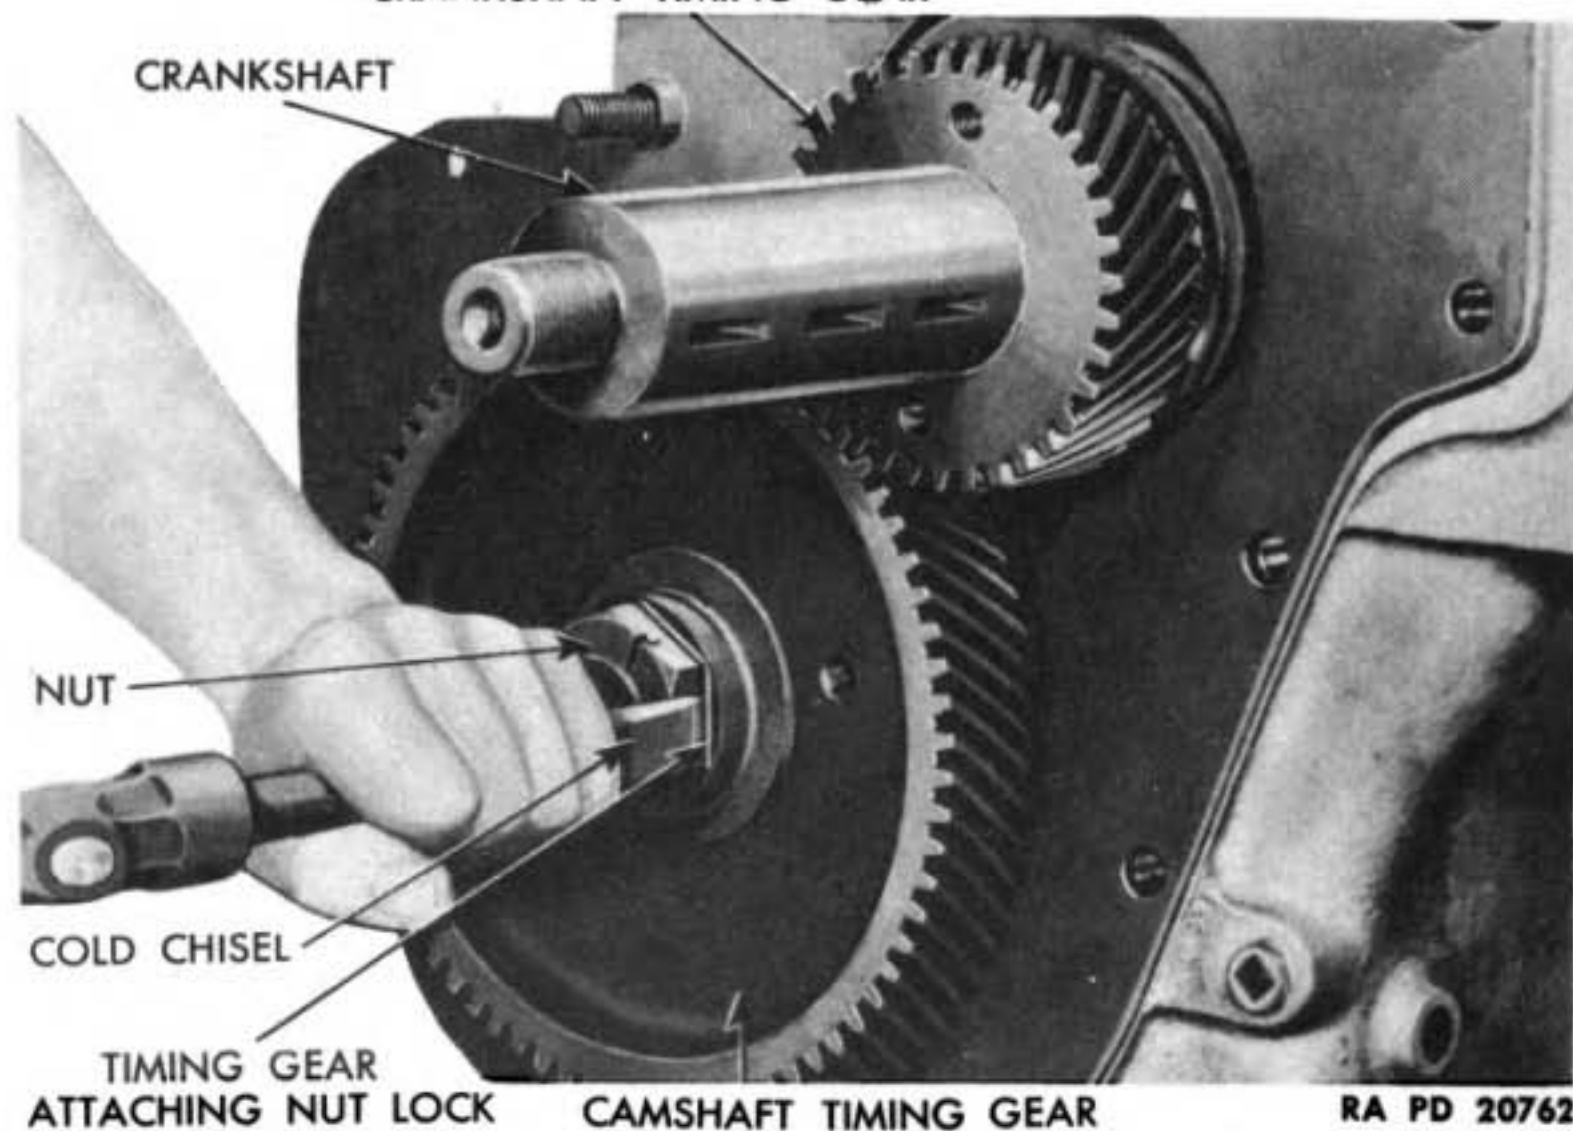
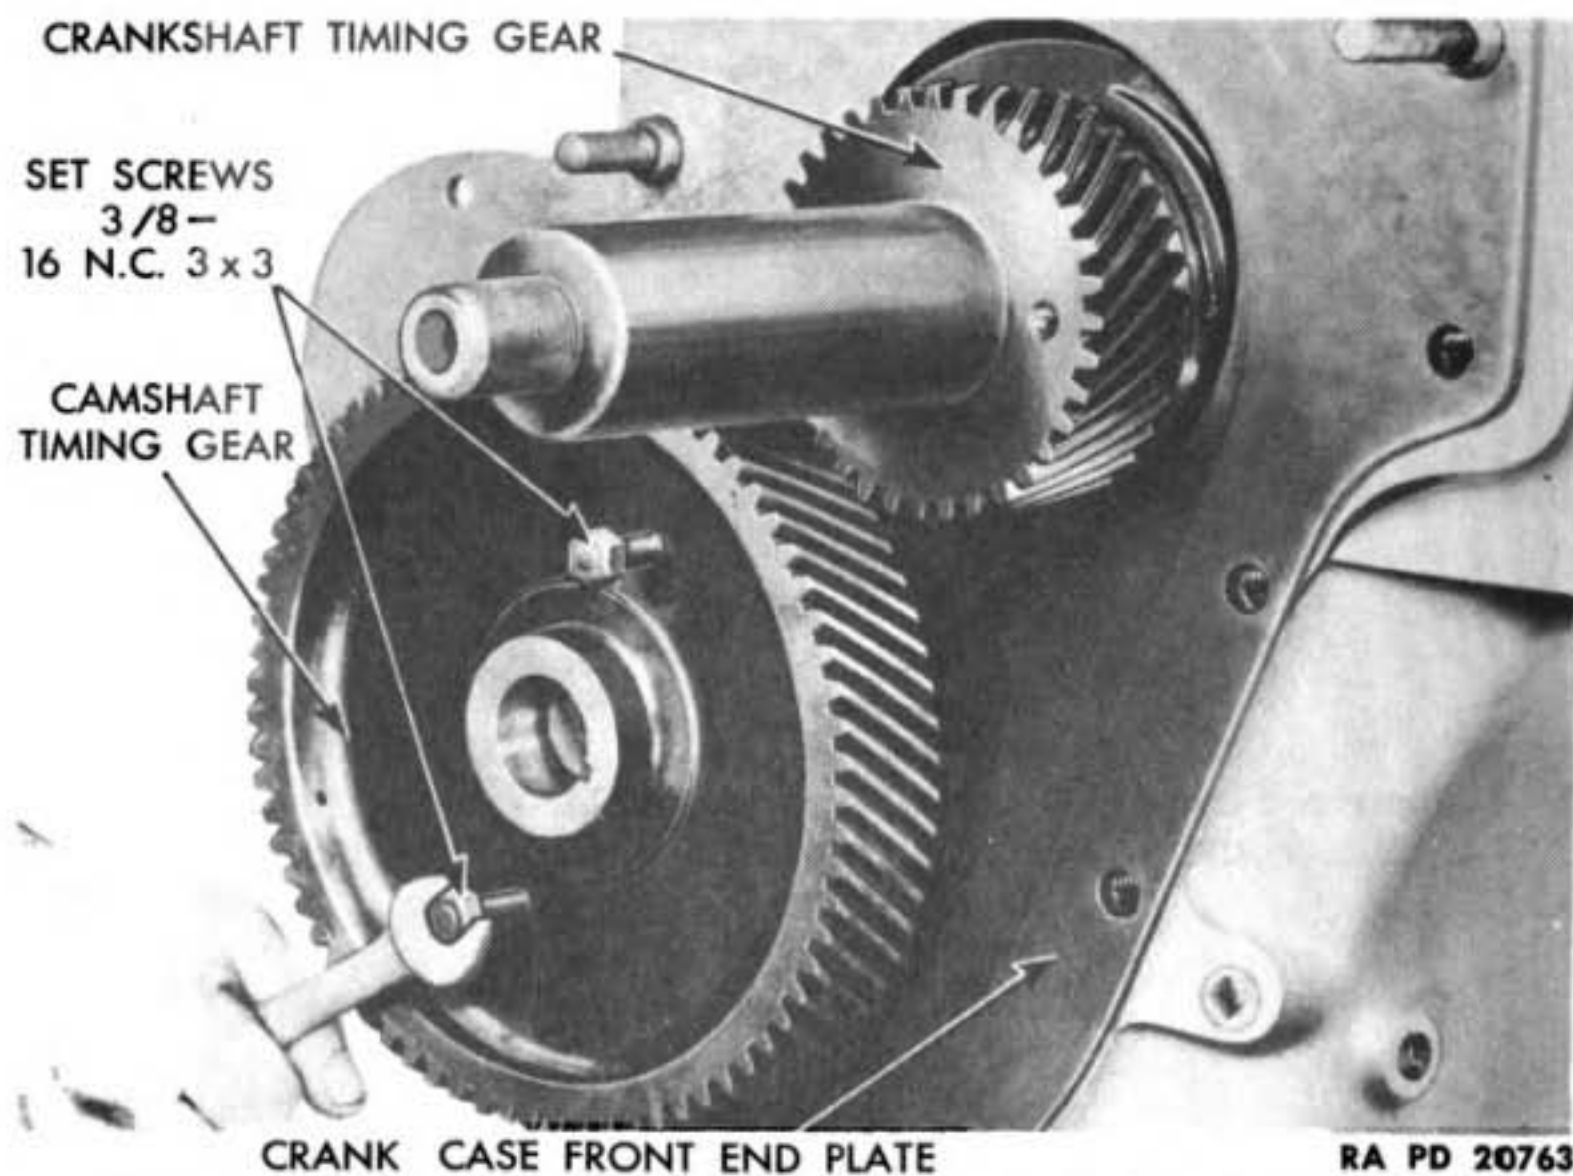
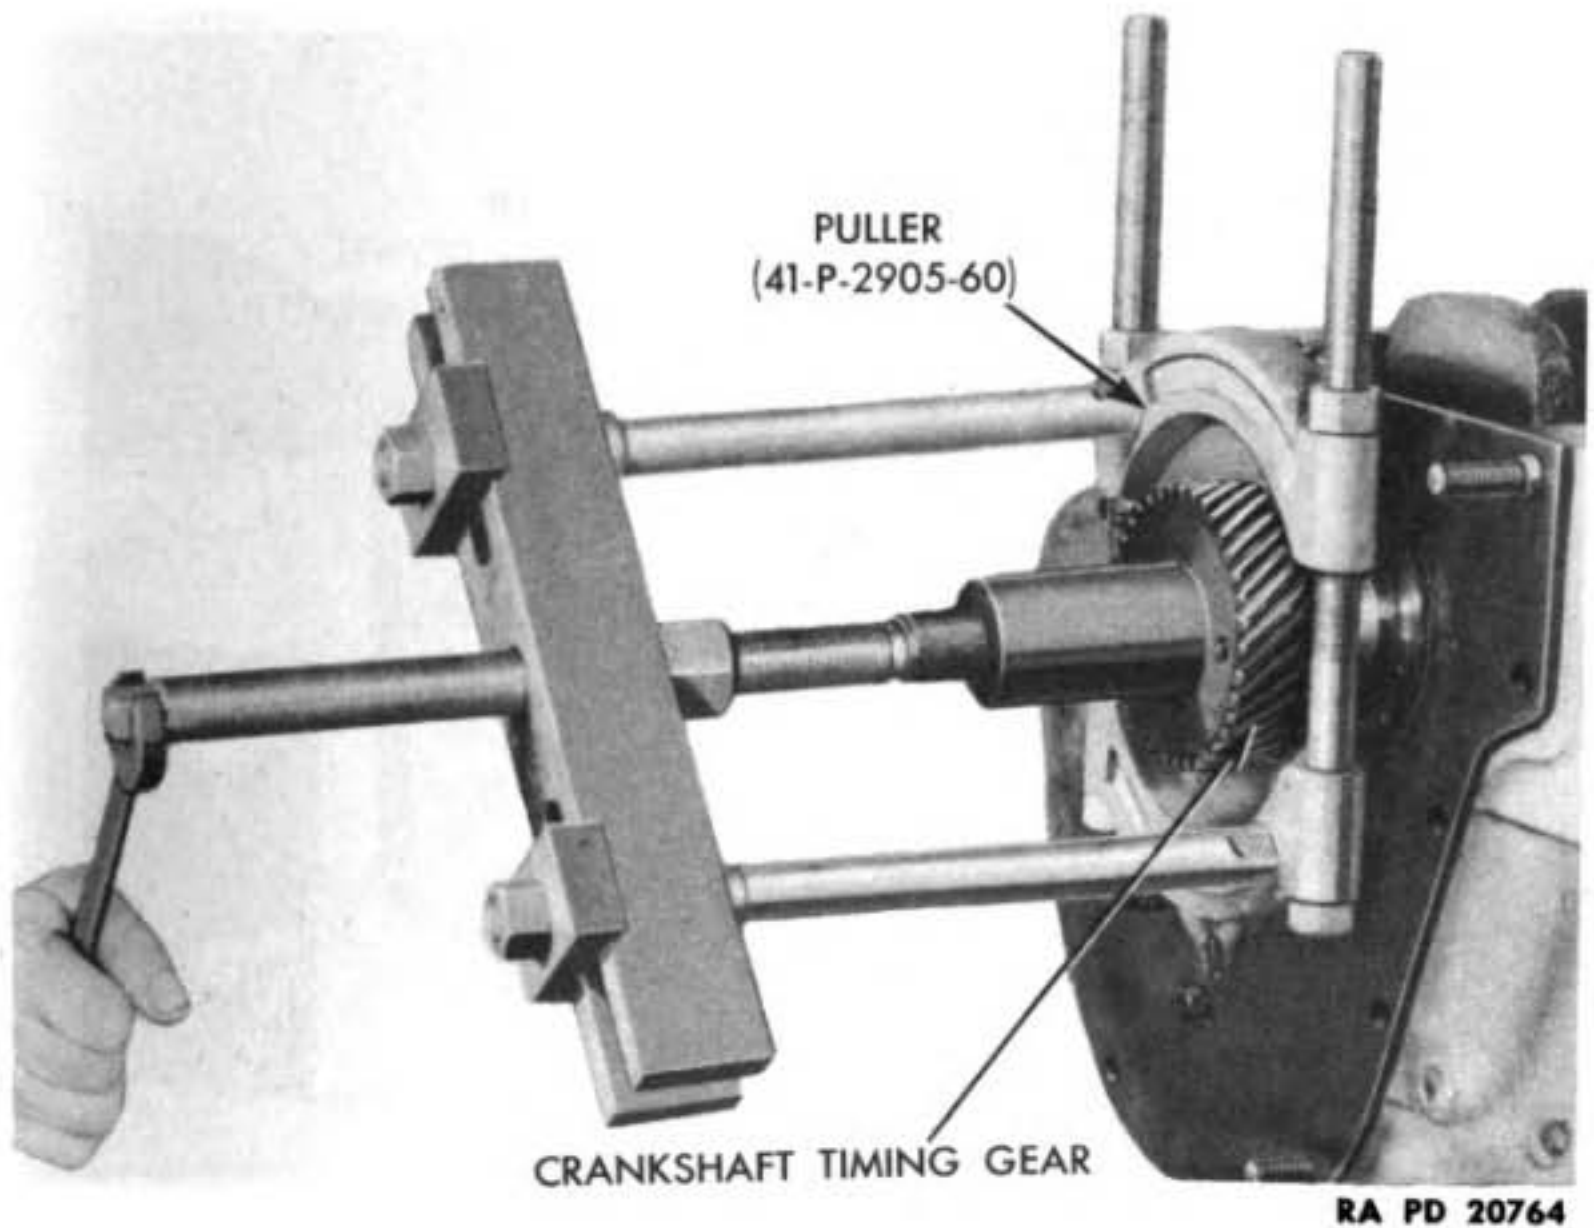

Figure 30 — Straightening Edges of Camshaft Timing Gear Attaching Nut Lock
Figure 31 — Removing Camshaft Timing Gear, Using Two Set Screws
Figure 32 — Removing Crankshaft Timing Gear with Puller
m. Remove Crankshaft and Camshaft Timing Gears. Pry three keys from front end of crankshaft, and slide off oil flinger. Drive edge of camshaft timing gear attaching nut lock away from nut (fig. 30), and remove nut. Insert two set screws ($\frac{3}{8}$ -16NC-3 x 3) in tapped holes in camshaft timing gear. Turn screws in against front end plate, alternately, a few turns at a time, until gear is forced off camshaft (fig. 31). Remove crankshaft timing gear with puller (41-P-2905-60) (fig. 32).